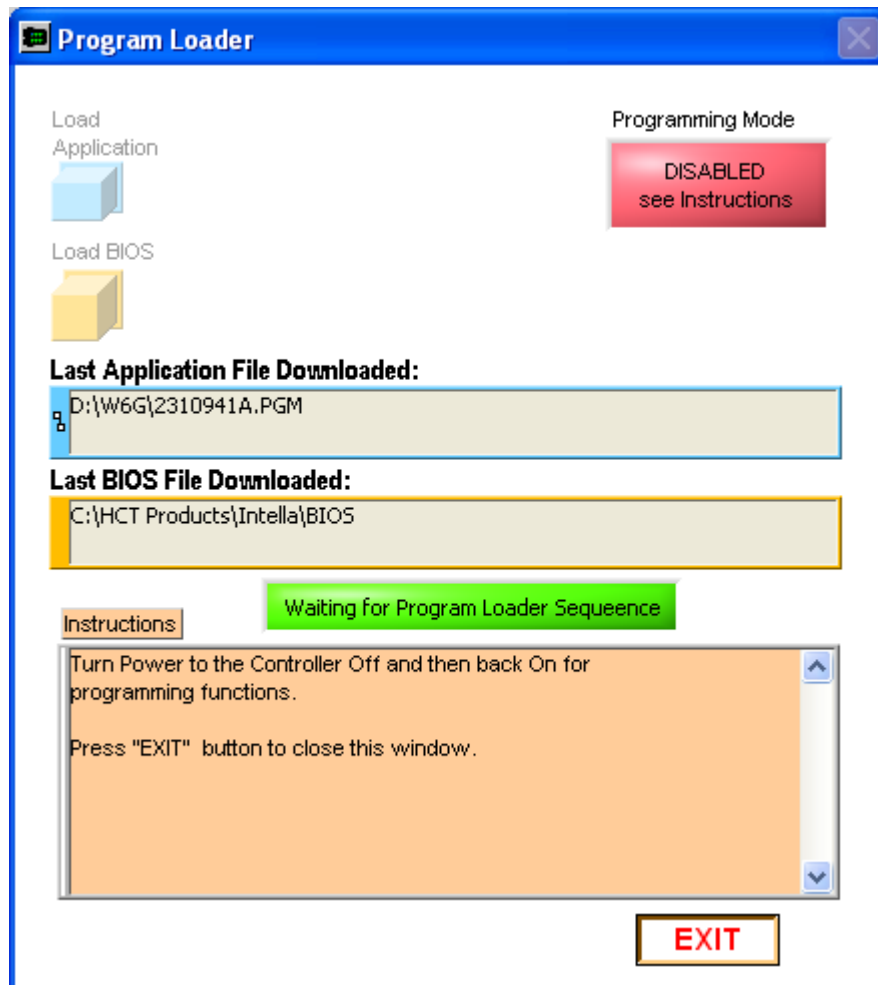

Figure 4 – Program Loader
- 6) To flash a new program or BIOS, select the Program Loader button in the DVC10 monitor window. You will then see the ‘Program Loader’ window (see Figure 4).